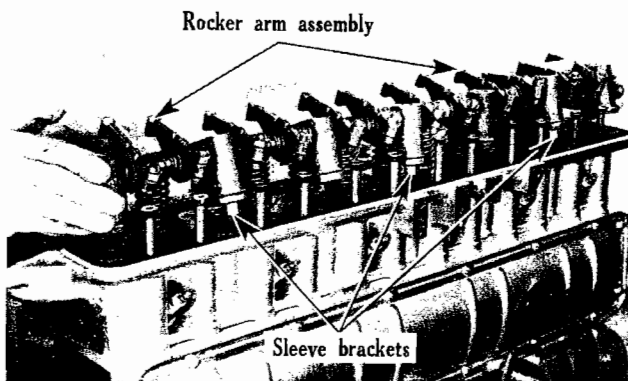

Fig. 7
3. Remove rocker-arm assembly as a unit (Fig. 7).